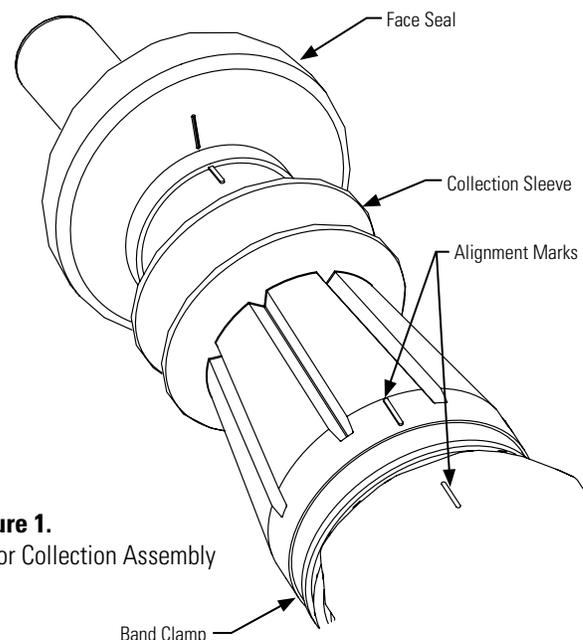

Figure 1.
5. Align and center all alignment marks on top of the vapor collection kit and nozzle scuff. (See Figure 1)
7. Tighten collection band clamp until collection sleeve will not rotate. (See Figure 1)